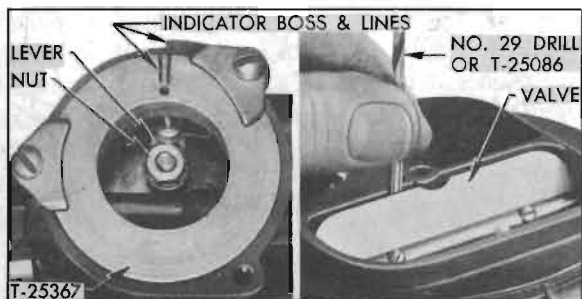

Figure 3-94—Choke Valve and Vacuum Piston Adjustment
22. Install Piston Setting Gauge T-25367 in choke housing so that the small hole fits over pin on the vacuum piston lever, and the two indicator lines on face of gauge are centered on the end of indicator boss on housing. Install two thermostat cover washers to hold gauge at this setting. See figure 3-94.
placed between upper edge of valve and wall of air horn (fig. 3-94), then lightly tighten lock nut.